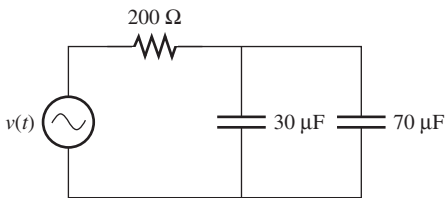

FIGURE P6.37 Circuit for Problem 6.37.
6.37 (A) Determine the rms current that flows across the resistor in Figure P6.37 if the voltage source is $v(t) = 24 \cos(500t + 60^\circ)$.